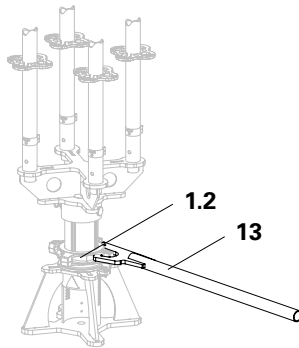

Fig. A5.11a
2. Turn adjusting nut (1.2) downwards using the Wing Nut Spanner HD (13). (Fig. A5.11a)